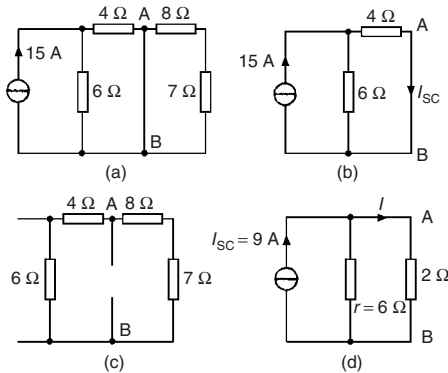

Figure 13.62
- (i) The $2\ \Omega$ resistance branch is short-circuited as shown in Fig. 13.62(a)
- (ii) Fig. 13.62(b) is equivalent to Fig. 13.62(a). Hence
- (iii) If the $15\ \text{A}$ current source is replaced by an open-circuit then from Fig. 13.62(c) the resistance ‘looking-in’ at a break made between A and B is given by $(6 + 4)\ \Omega$ in parallel with $(8 + 7)\ \Omega$, i.e.
- (iv) From the Norton equivalent network shown in Fig. 13.62(d) the current in the $2\ \Omega$ resistance is given by: